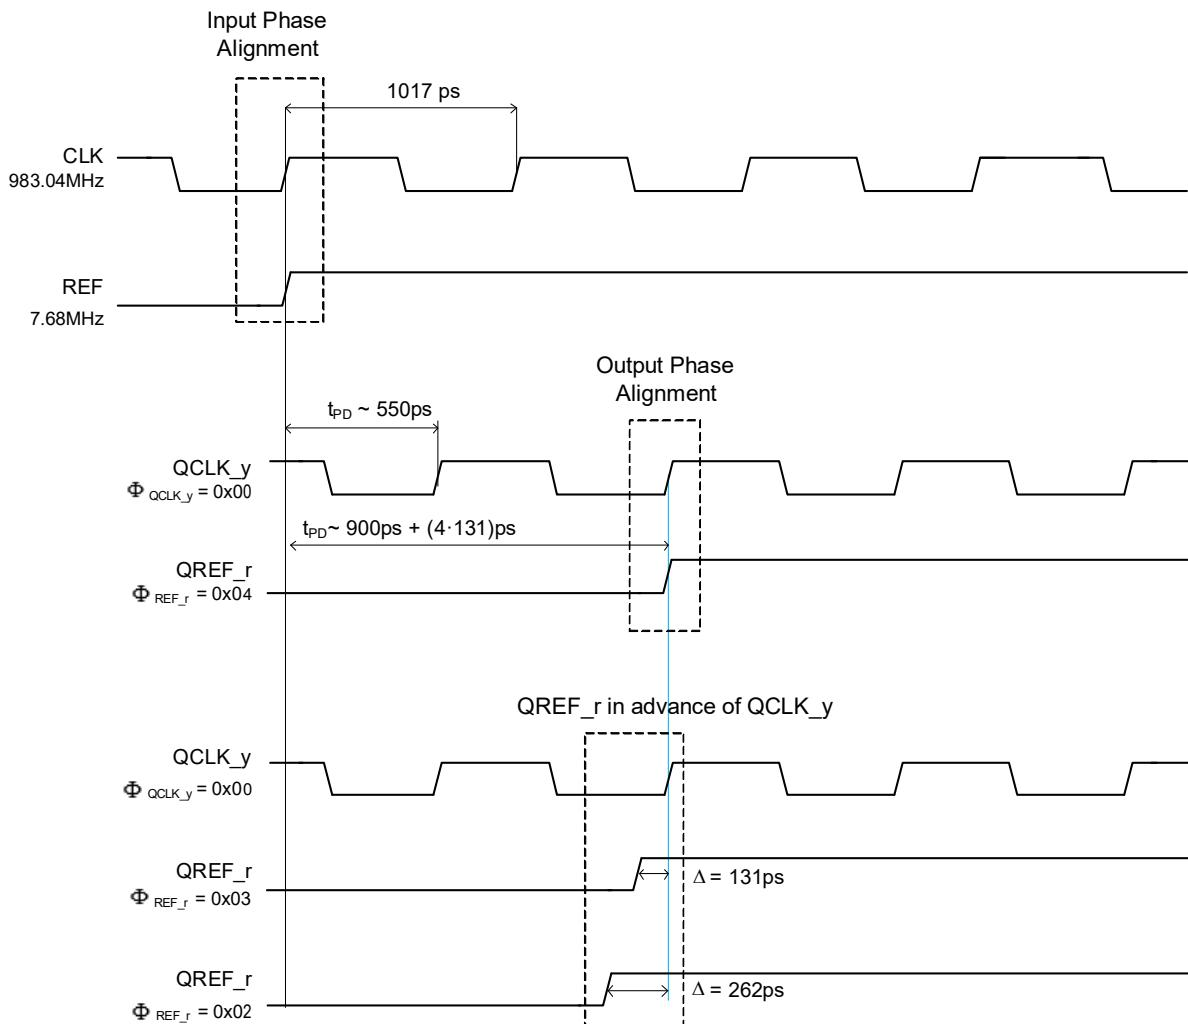

Figure 8. QCLK\_y to QREF Phase Alignment
**Single Device:** To achieve an output phase alignment between the QCLK\_y clock and the QREF\_r SYSREF outputs, the CLK and REF input signals must be phase aligned or have a known, deterministic phase relationship. Figure 8 shows an example output phase alignment for aligned clock and SYREF inputs. The closest (smallest phase error) output alignment is achieved by setting the clock phase delay register  $\Phi_{QCLK\_Y}$  to 0x00 (clock) and the SYSREF phase delay register  $\Phi_{QCLK\_Y}$  to 0x04. With a SYSREF phase delay setting of 0x03 or less, the QREF\_r output phase is in advance of the QCLK\_y phase, which is applicable in JESD204B/C application. Phase delay settings and propagation delays are independent on the clock and SYSREF frequencies. Table 24 shows recommended phase delay setting several device configurations.